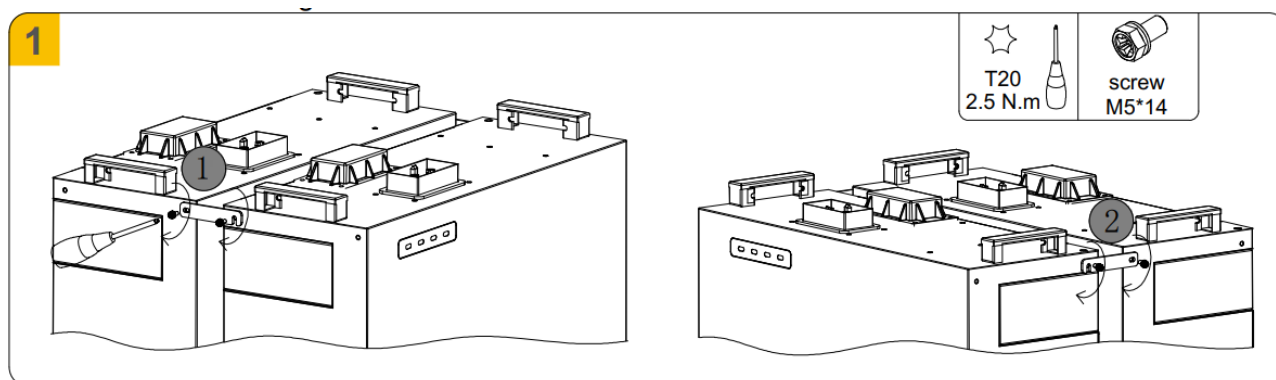

Figure 5-6 Battery top cover installation
1. Remove the battery from the carton and place it 30 ± 2 mm forward the mounted battery. Refer to Figure 5-6
2. Take out the fixed plates in the battery package, and secure two (one fixed plate for each side) between each two batteries (tool: T20 screwdriver, torque: 2.5 N·m). Refer to Figure 5-6.